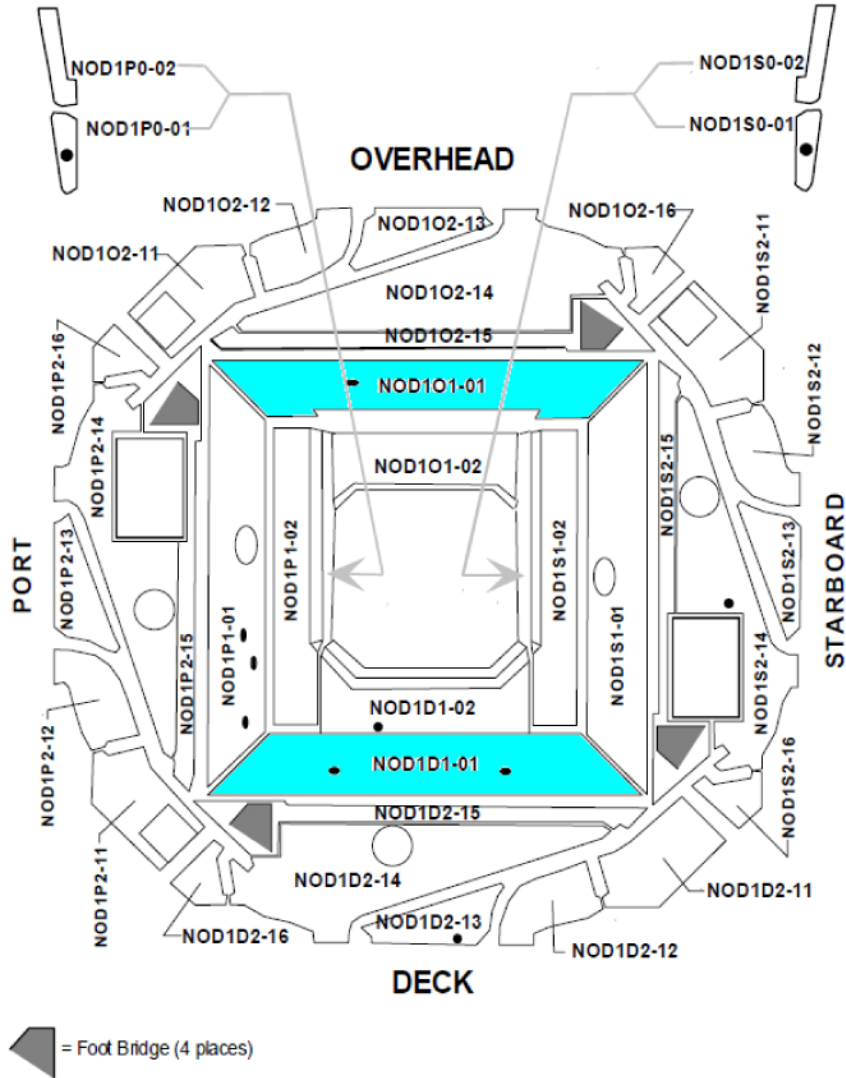

Figure 1.- Alcove Closeout Panel Removal.
- 1.1 Remove the Closeout Panels listed in Table 2 (Ratchet, 1/4" Drive; 5/32" Hex Head, 1/4" Drive). Refer to Figures 1, 2, 3, and 4.